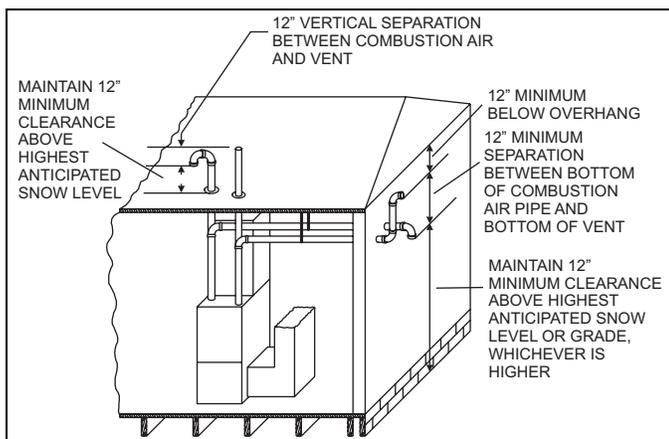

FIGURE 15: Termination Configuration - 2 Pipe
The combustion air side of the single pipe configuration shown in Figure 21 is referred to in these instructions as ambient combustion air supply. Follow the instructions for ambient combustion air installations, paying particular attention to the section on air source from inside the building. The vent for a single pipe system must be installed as specified in the venting section of these instructions with the vent terminating as shown in Figure 15. Each furnace must have a separate vent pipe. Under NO circumstances can the two vent pipes be tied together.
2. **AMBIENT COMBUSTION AIR: (Modular Homes:** Not approved for installation in HUD approved homes). Combustion air is supplied from the area surrounding the furnace through vents or knockouts in the furnace casing. The combustion air and the vent pipes are not terminated in the same atmospheric zone. Refer to Figure 15 for vent terminations. Refer to "AIR SOURCE FROM INSIDE THE BUILDING" and "VENT AND SUPPLY AIR SAFETY CHECK" for proper installation. Refer to Figure 21.